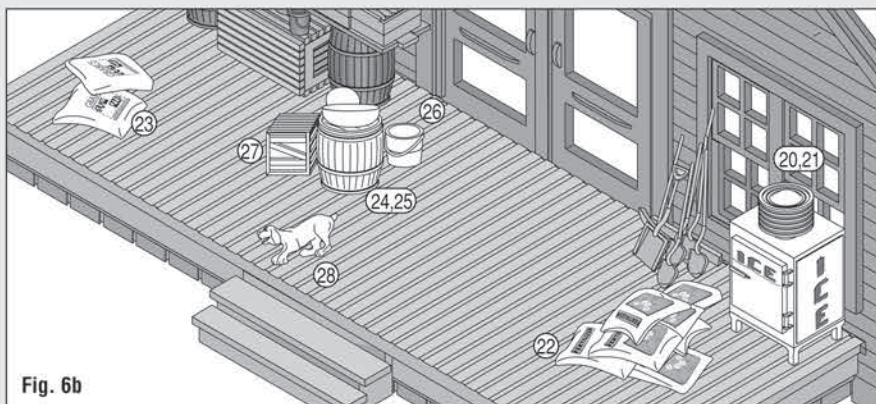

Fig. 6b
- Glue Compressor (20) to Ice Machine (21) and Melons (25) to Half Barrel (24).
- Install Ice Machine Assembly (20,21), Half Barrel Assembly (24,25), Bucket (26), Small Crate (27), 2-Sacks (23), Dog (28) and Pile of Sacks (22) (Fig. 6b).